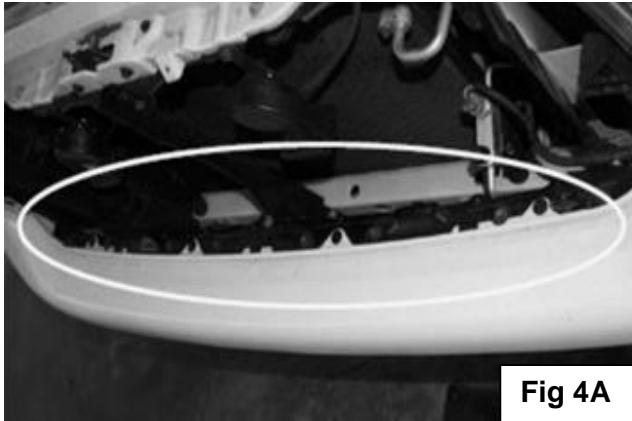

Fig 4A
9. Remove all pop rivets (8 Total) from the front painted plastic bumper upper fascia (**Fig 4A & 4B**).